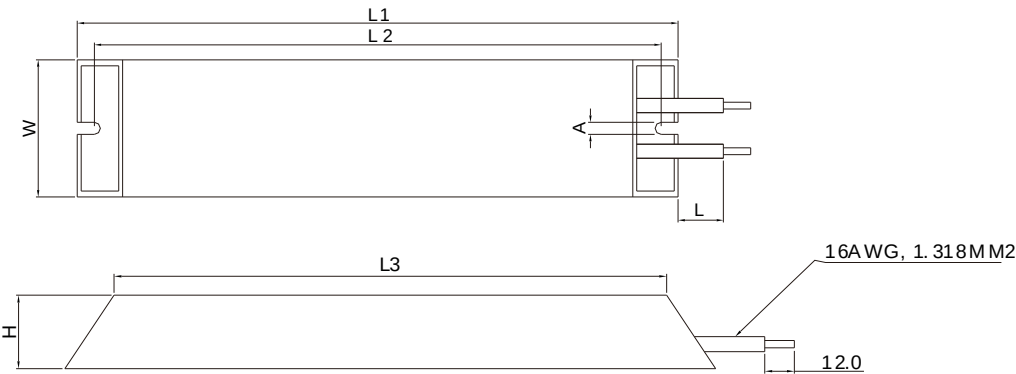

Figure 7-2
- 1.2 Aluminum housed resistors: For below 1000 W, refer to the following appearance of aluminum-housed resistor (Figure 7-2) and its model and specification comparison table (Table 7-6) for details